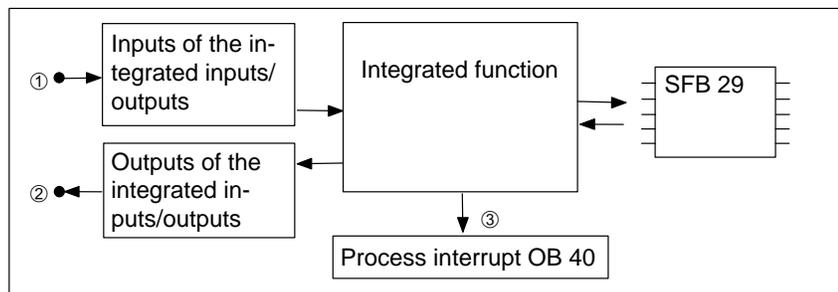

Figure 4-10 Response Paths
**Response Paths** Figure 4-10 illustrates the various response paths.